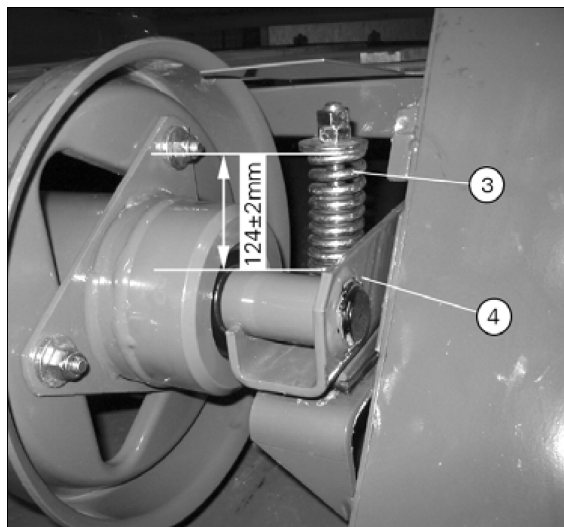

Fig. 1.
- Grease the surface on the inside of the crop elevator (C) where the bearing bracket moves.
- Fit the bearing bracket in the crop elevator. Tighten the nut (A) hard. Tighten the nut (B) enough to eliminate any play between the spring bracket and elevator side panel, but not so much that the spring bracket is unable to move.
- Compress the spring (3) (fig. 1) to a length of 124 ± 2 mm.